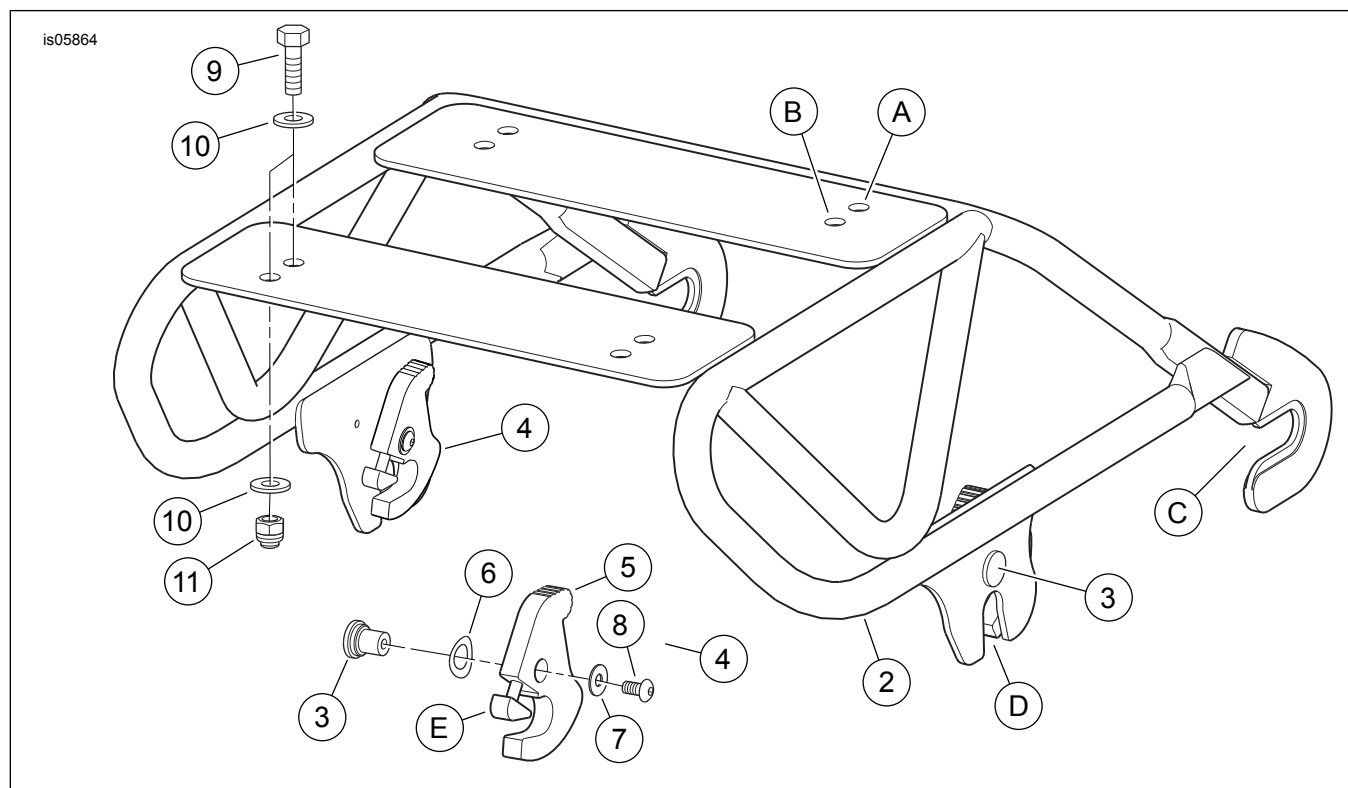

Figure 3. Service Parts, H-D Detachables Softail Two-Up Tour-Pak Luggage Rack
See Figure 3 and Table 1.
See Figure 3. When installing the luggage to the rack note the holes in the luggage rack (2). The forward (A) and rearward (B) positions for mounting the luggage.